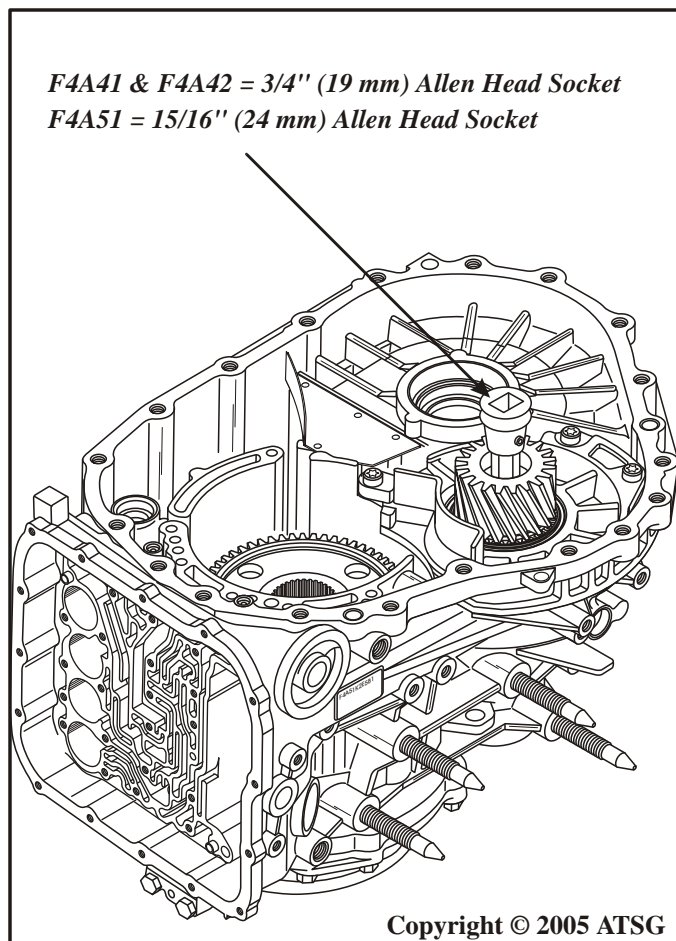

Figure 56
Note: This nut is "Left Hand Thread", and must be turned clockwise to remove, and the pinion shaft must be held from the opposite side using the appropriate size allen head socket, as shown in Figure 56.
73. Rotate the transaxle so the front side is facing up, as shown in Figure 56, and remove allen head socket.